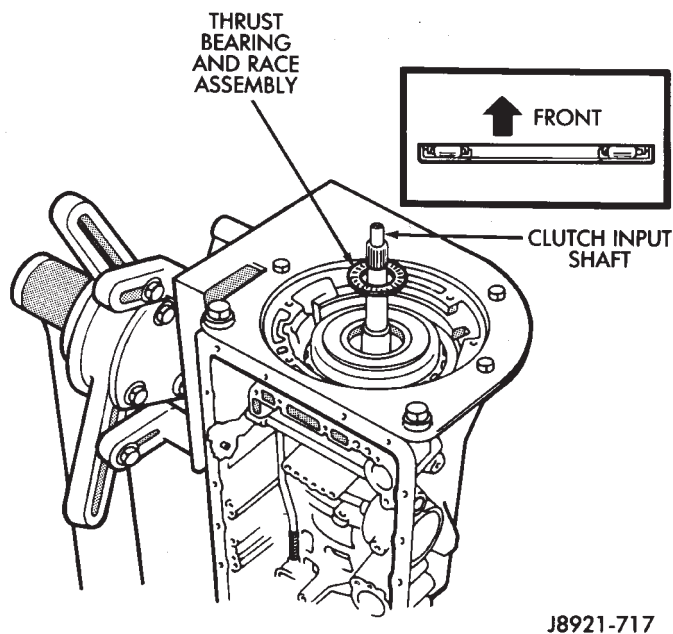

Fig. 50 Installing Input Shaft Thrust Bearing And Race Assembly
(62) Coat thrust bearing and race assembly with petroleum jelly and install it on clutch input shaft (Fig. 50). Bearing and race outer diameter is 50.2 mm (1.976 in.) and inside diameter is 28.9 mm (1.138 in.).
(63) Install overdrive brake pack as follows: